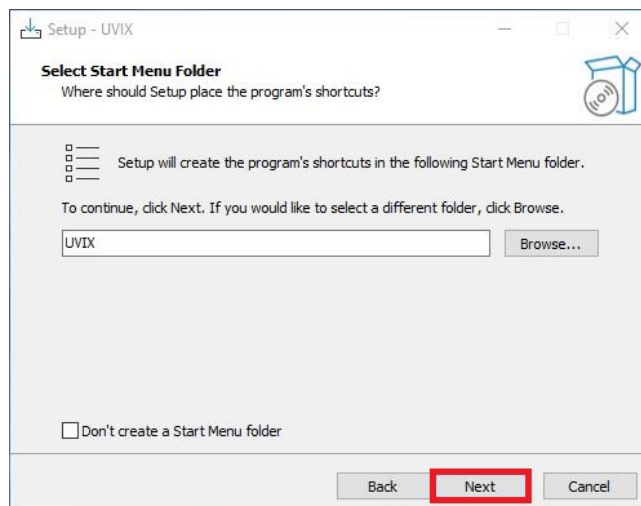

Figure 4.15: Create Shortcut
- 5. Specify whether you want to create a shortcut and click "Next," as shown in figure 4.15.